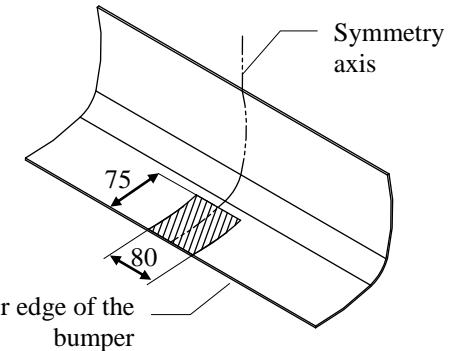

Fig. 3 Bumper cut out
8. Reassemble the bumper after cut out fragment as shown in fig. 3.
10. Fix body of the automat and place tow-ball according to supplied instruction. Note! Remember to place socket plate (pos. 3) as shown on the drawing 1.